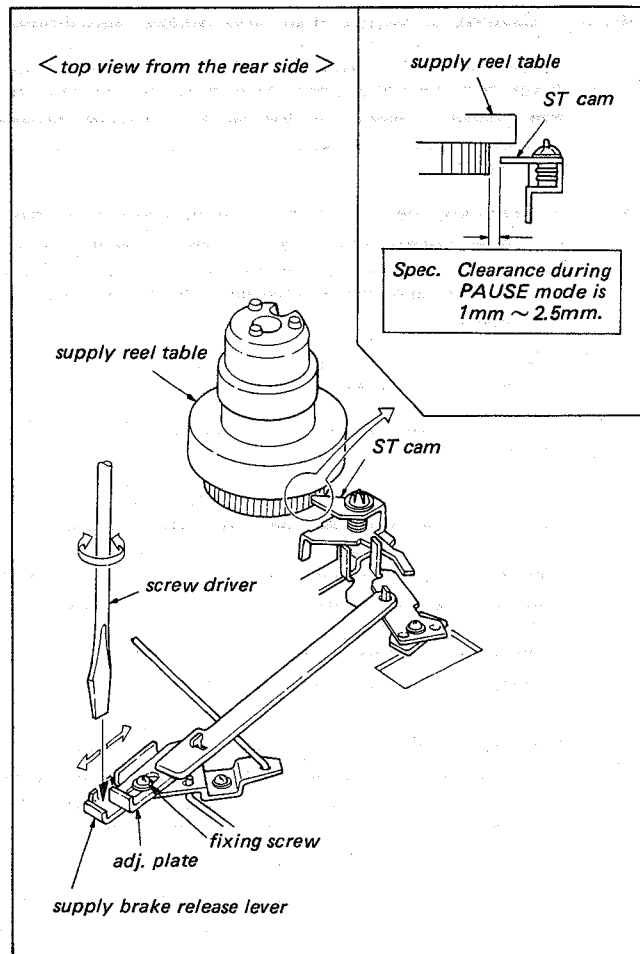

Fig. 4-33. STILL ADJUST adjustment (FWD mode without tape)
- Adjust position of the Adj. Plate shown in Fig. 4-33 in the direction shown with screw driver tip so that clearance between tip of the ST Cam and surface of the Supply Reel-Table is 1 mm ~ 2.5 mm as observed by eye.